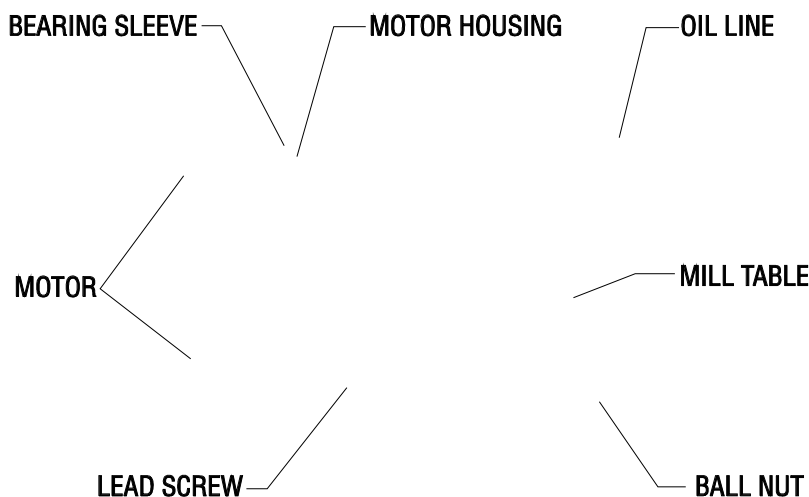

Fig. 10-2 Lead screw assembly.
3. Visually inspect the flex plates to ensure that they are parallel to the coupling halves, and that the slits in the coupling and clamp ring are in alignment (See Fig. 10-2). Tighten the 10-32 x 1/2" SHCS on the motor coupling at the lead screw. (Place a drop of blue Loctite® on the screw before inserting.)